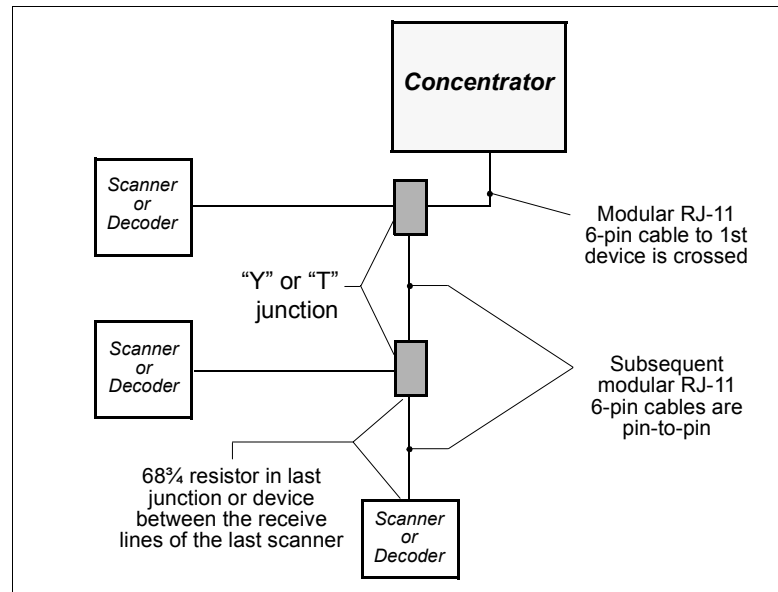

Figure 1-3 Multidrop Layout Diagram
- Modular RJ-11, 6-pin cable to first device (or junction) is crossed (see figure 1-3).